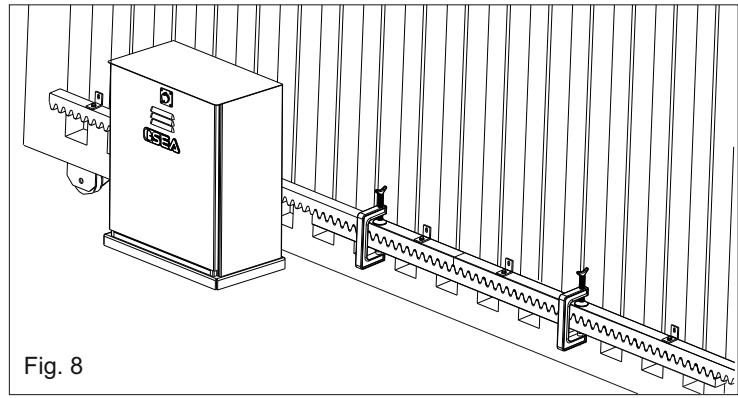

Fig. 8
**5.4.** Make sure that all the gear rack elements are perfectly aligned and placed correctly (teeth in phase). It's suggested to place two aligned elements in front of a third one as shown in Fig.8;